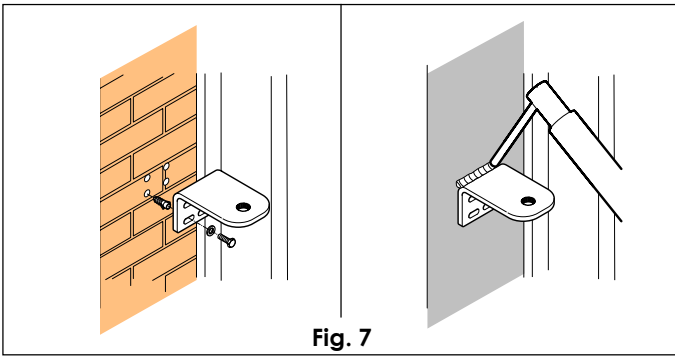

Fig. 7
- Secure the rear fitting to the pillar by welding or using suitable expansion plugs (Fig.7), observing the dimension as shown in figure 5 and checking if the fitting is perfectly horizontal.